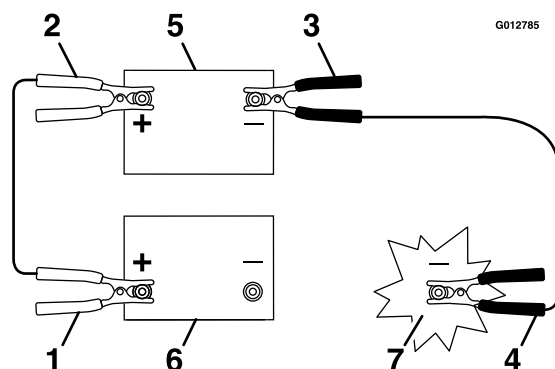

Figure 40
3. Connect the positive (+) cable to the positive (+) terminal of the discharged battery that is wired to the starter or solenoid as shown in Figure 40.